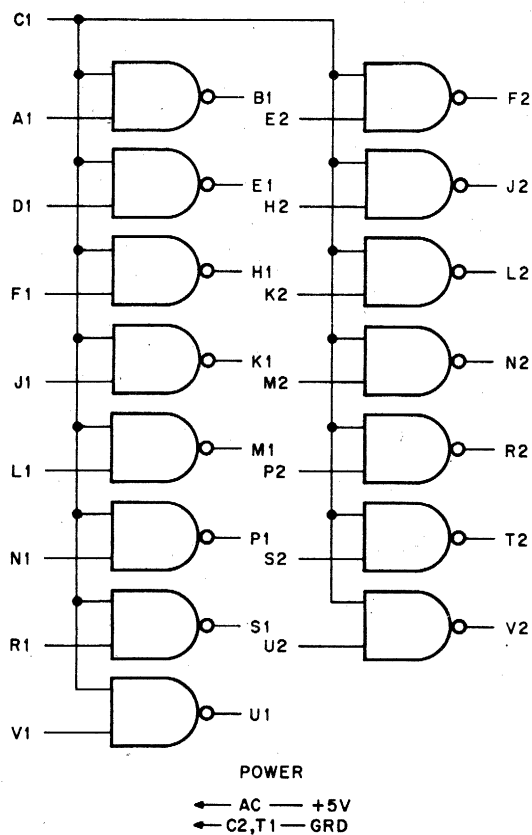
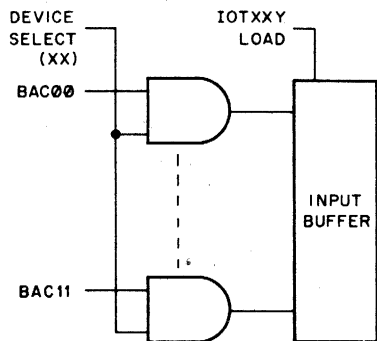

Figure 10-12 M101 Bus Data Interface
Figure 10-13 Bus Data Application
The user also has to transfer data from the accumulator. Therefore, he must get the data on the BAC 00-11 lines into the peripheral buffer register. While doing this, he must take care that he does not place an excessive load on any BAC line. If he uses an M101 Bus Data interface, shown in figure 10-12, he can be sure of maintaining proper loading of these lines. Figure 10-13 shows how this interface must be used. Twelve of the gates are connected to the 'device select' line. When the device (XX) is selected, the BAC 00-11 data is applied to the input lines of the buffer register. IOT XXY then loads the register with the data word. The M101 presents the following input TTL unit loads: 15 loads at the clock input (device select line); 1 load at the data inputs.